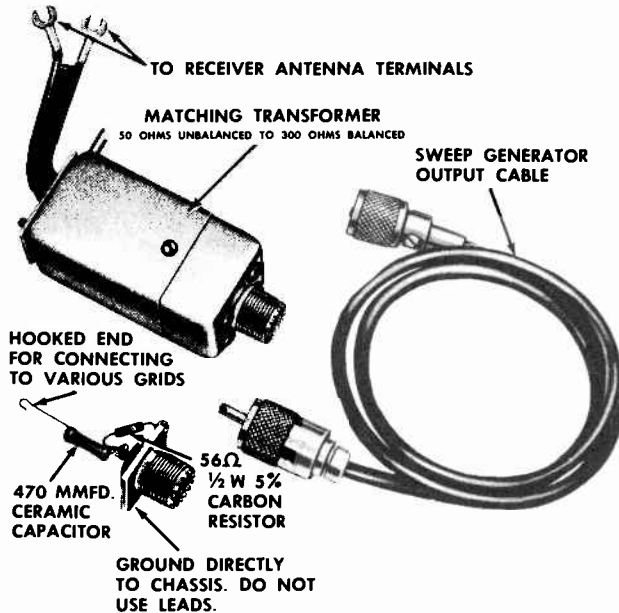
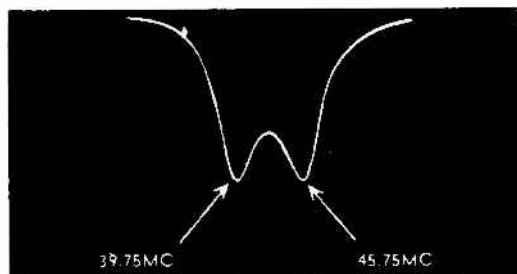

Fig. 3 IF-RF Alignment Fixtures
Fig. 8 4th IF Response
4. Connect the sweep generator through a terminating network (Fig. 3) to the grid (pin 1) of the third IF.
3. Feed the output from the sweep generator through the special termination unit shown in Fig. 3 to point "D" (pin 1 of 6CB6, 3rd IF). Adjust the generator until a pattern similar to Fig. 8 is obtained.
4. Set the Marker Generator to 45.75 Mc and alternately adjust the top and bottom cores of the 4th IF transformer for maximum gain and symmetry with the 45.75 Mc markers positioned as shown in Fig. 8. The 39.75 Mc marker can fall within ± 0.5 Mc of the specified frequency. If the correct response curve cannot be obtained in this step, check the position of the two cores to see that they are entering their respective windings from the opposite ends of the coil form.